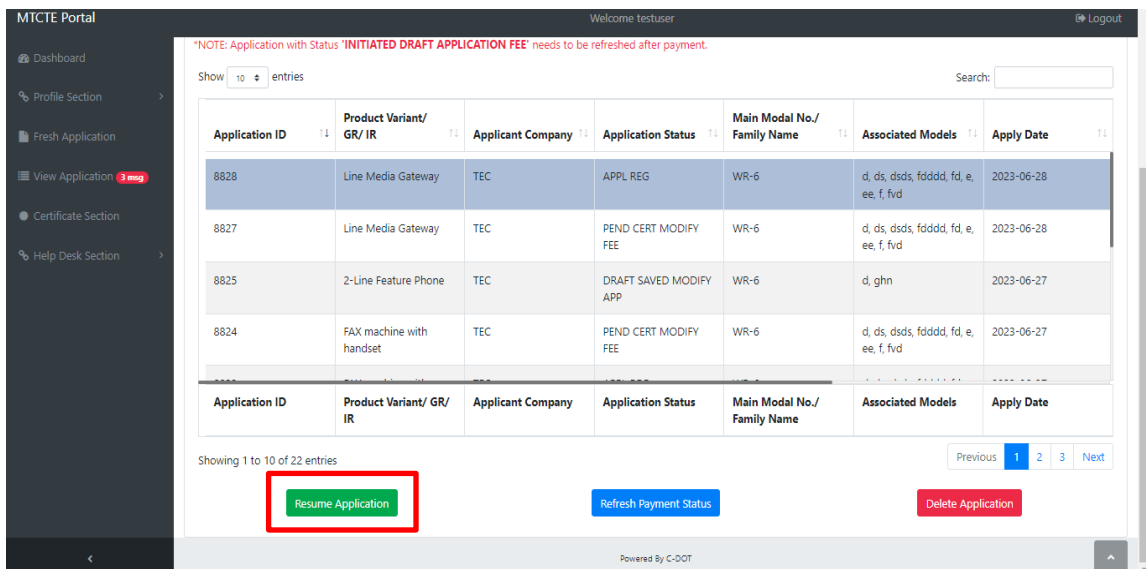

Fig. 44: Resume Application
- h. After completion of the payment, applicants will be able to see the newly generated Application ID in the dashboard. Select the newly generated Application ID and click on **Resume Application** (Fig. 44)